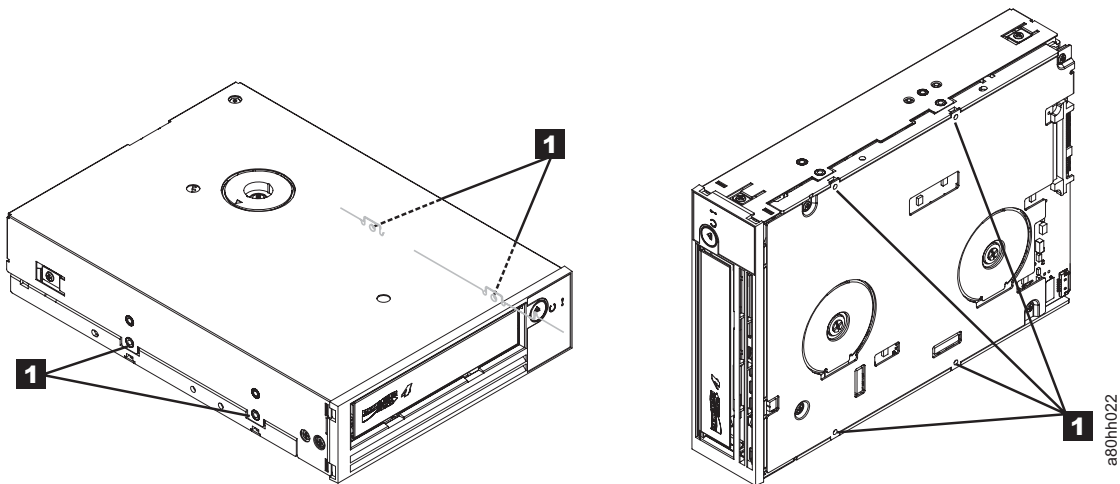

Figure C-2. Removing the bezel and the cover from the internal drive
- 1) Remove the four cover-mounting screws ( **1** in Figure C-2). Two screws are located on each side of the drive.